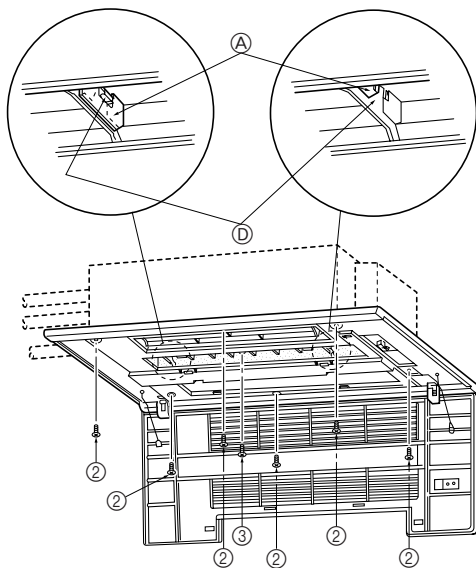
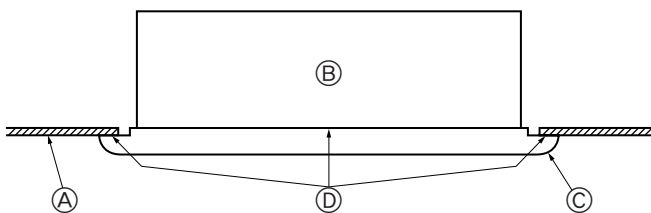

Fig. 5-5
Fig. 5-6
- Adjust the front panel so that it fits properly in the angle between the ceiling and the wall, and install the securing bolts ② (supplied with this grille) in their four places at left and right, leaving them slightly loose. (Fig. 5-5)
- Next tighten the securing bolts ② and securing screws ③ in the center three places.
- Finally tighten the securing bolts ② in the four places at left and right.
- At this point, make sure there are no gaps between the indoor unit and the front panel, and between the front panel and the ceiling surface. If there are gaps, the wind may come in and it may cause water to drip (Fig. 5-6).
- \* Tighten the securing bolts ② and securing screws ③ completely.